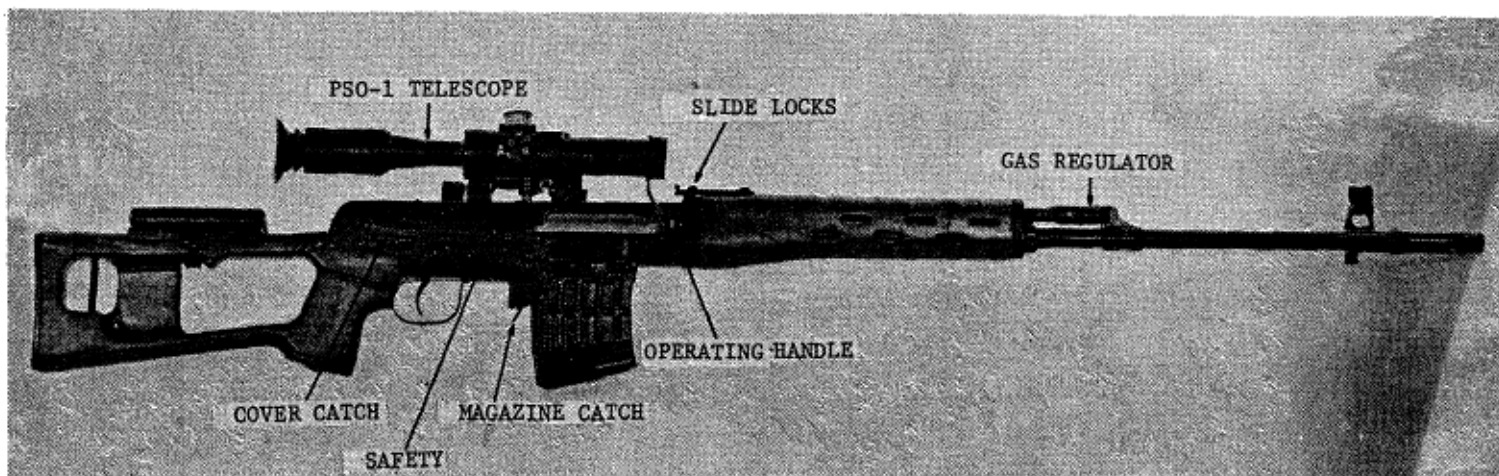
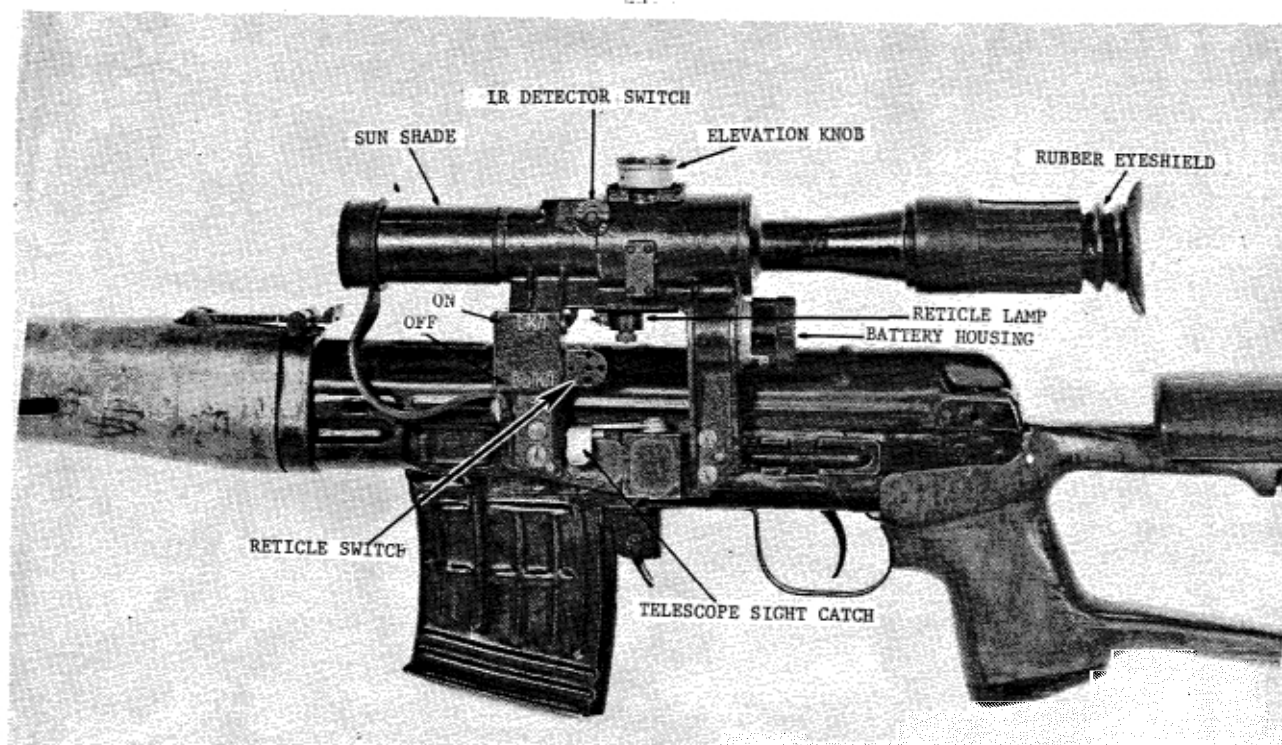
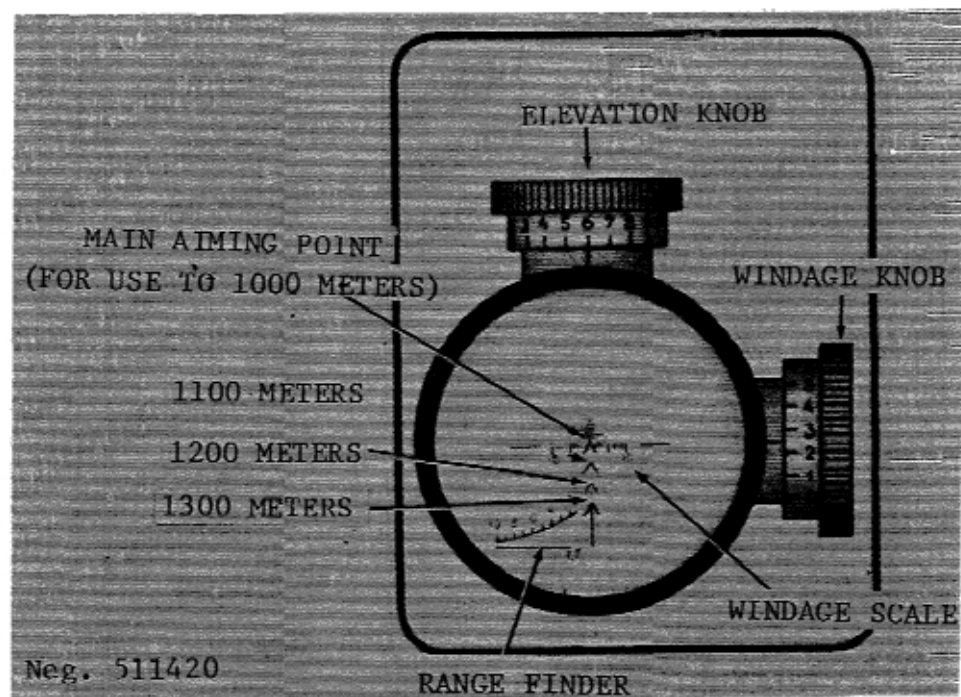

Figure 119. Dragunov sniper's rifle (SVD).
Figure 120. PSO-1 telescopic sight.
Figure 121. PSO-1 reticle pattern.
a. The Dragunov sniper's rifle (fig 119) is one of the newer Soviet small arms, and has replaced the older M1891/30 sniper's rifle (subsec E) in most of the Warsaw Pact armies. The Dragunov, also known as the SVD, is a gas-operated, magazine-fed, semi-automatic weapon fitted with a PSO-1 telescopic sight. The PSO-1 telescope can be used for conventional aiming during daylight, and can also be used to detect and fire upon active infrared sources at night. A light amplification (Starlight) telescope, the NSP-3, is also available for use in the SVD. Conventional open sights are also provided for emergency use. The Warsaw Pact AKM bayonet-wirecutters (fig 89) can be affixed to the SVD. A folding stock version, the SVD, is used by airborne units.
a. Remove the magazine by pressing the magazine catch (fig 119) toward the magazine and rocking the magazine forward. Place a cartridge on the magazine platform and press it down until it rolls under one of the magazine lips. Repeat until the magazine
is full. Insure that the rim of each cartridge, as it is loaded into the magazine, is in front of the rim of the preceeding cartridge. Insert the loaded magazine into the magazine well so that the top front edge engages, then rock the magazine rearward until the magazine catch (fig 119) snaps into place and retains the magazine.
b. Press the safety (fig 119) down, if necessary, then pull the operating handle (fig 119) fully rearward and release it.
c. If the open sights are to be used, set the rear sight by pressing in the locks on the rear sight slide (fig 119), then move the slide along the rear sight leaf. The front edge of the slide should be aligned with the numeral that corresponds to the range in hundreds of meters. Use the same sight picture as for firing a pistol.
d. If the PSO-1 telescopic sight (fig 120) is used, rotate the elevation knob until the figure that corresponds to the range in hundreds of meters is aligned with its index. The range can be fairly accurately determined by use of the range finder located in the lower left of the telescope reticle (fig 121). This rangefinder is graduated to the height of a man (5'7"). Look through the telescope and place the horizontal line at the bottom line of the target. Move the telescope until the upper (curved) line just touches the top of the target's head. The number indicates the
range in hundreds of meters; if the target falls between numbers, the remaining distance then must be estimated. When the range is determined and set into the elevation knob, use the point of the top chevron on the reticle as an aiming point. The three lower chevrons are used for firing at 1100, 1200, and 1300 meters with the elevation knob set at 10. The horizontal scale extending out from the sides of the top chevron are used for hasty wind corrections; deliberate changes are made by rotating the windage knob (fig 120).
e. For firing when the light is dim, illuminate the reticle by turning on the switch in the telescopic sight mount (fig 120). If active infrared light sources are believed to be in use by the opponents, set the range drum (fig 120) at "4" and switch the infrared detector into place. Scan the area to the front; if any active infrared light sources are in use they will appear as
g. The regulator (fig 119) is normally set at "1" to obtain best functioning. If the SVD becomes sluggish, slip the rim of a cartridge case into the lugs on the side of the regulator and rotate the regulator to "2". Clean the rifle as soon as possible and reset the regulator back to "1".
a. Clear the SVD, but do not set the safety to safe or replace the magazine. Release the telescope sight catch (fig 120) and pull the telescope off the rear. Place the telescope in its carrying case. Remove the cheek pad (fig 119).
b. Press the receiver cover catch (fig 119) upward and pull the receiver cover and driving spring upward and off the receiver. Pull the operating handle (fig 119) to the rear, then lift the bolt carrier and bolt out of the rifle. Push the bolt into the bolt carrier until it can be rotated so that the operating lug on the bolt is free of its cam recess in the bolt carrier. Pull the bolt out of the carrier (fig 121.1).
d. Press the handguard catch (fig 119) in until it is free of the handguard ferrule, then rotate the catch to the right. Push the ferrule (fig 119) forward; then pull the handguard down and out to remove them. It may be necessary to pry tight handguards off the barrel.
g. To reassemble the SVD, first insert the operating rod and its spring in its recess in the rear sight base (fig 119). Press the rod to one side and slip the piston onto the gas block, then insert the operating rod into the piston.
h. Slip the rear end of the handguards into their seats, swing the front ends together and push the ferrule (fig 119) rearward to hold the handguards in place. Rotate the ferrule until the handguard catch snaps into place.
l. Replace the cheek pad and, while holding the telescope sight catch (fig 120), slide the sight onto its seat from the rear. Replace the magazine, press the trigger and move the safety upward.
a. The main accessory for the SVD is its PSO-1 telescope. This scope has an illuminated reticle powered by a small dry cell. The battery housing is located at the bottom rear of the telescopic sight mount (fig 120). To change batteries, press in and rotate the battery housing counterclockwise. Remove the old battery and replace with the same type. The reticle lamp can be replaced by unscrewing its housing (fig 120) and removing the bulb. The reticle light is turned on or off by its switch (fig 120). The lens cap should always be in place except when actually using the telescope for aiming.